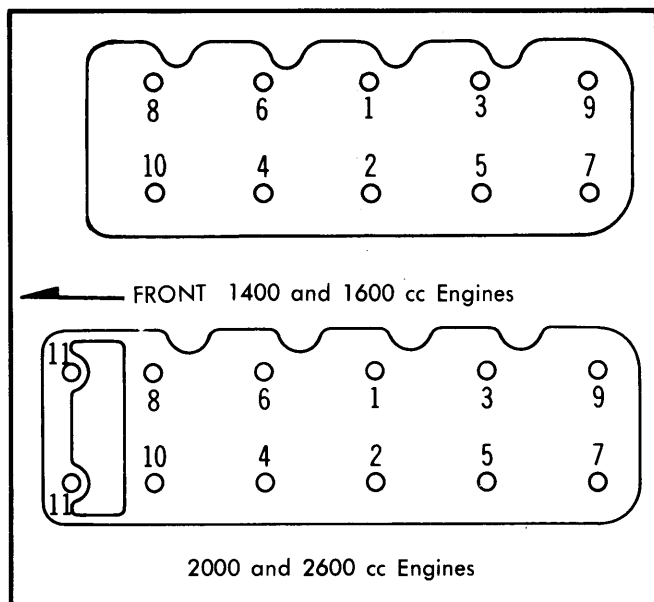

Fig. 2 Cylinder Head Bolt Tightening Sequence (Remove in Reverse Order)
4) Except on 1400 cc engine, remove camshaft sprocket from camshaft. On 1600 cc engine, remove timing belt upper inner cover. Remove cylinder head bolts in 2 or 3 stages according to sequence shown in Fig. 2, loosening high numbers first. Lift off head using caution to avoid twisting sprocket and chain (or belt).
2) Tighten cylinder head bolts to initial torque (25 ft. lbs. for 1600 cc, 35 ft. lbs. for others) according to sequence shown in Fig. 2. Repeat the procedure, retightening all cylinder head bolts to specified torque.